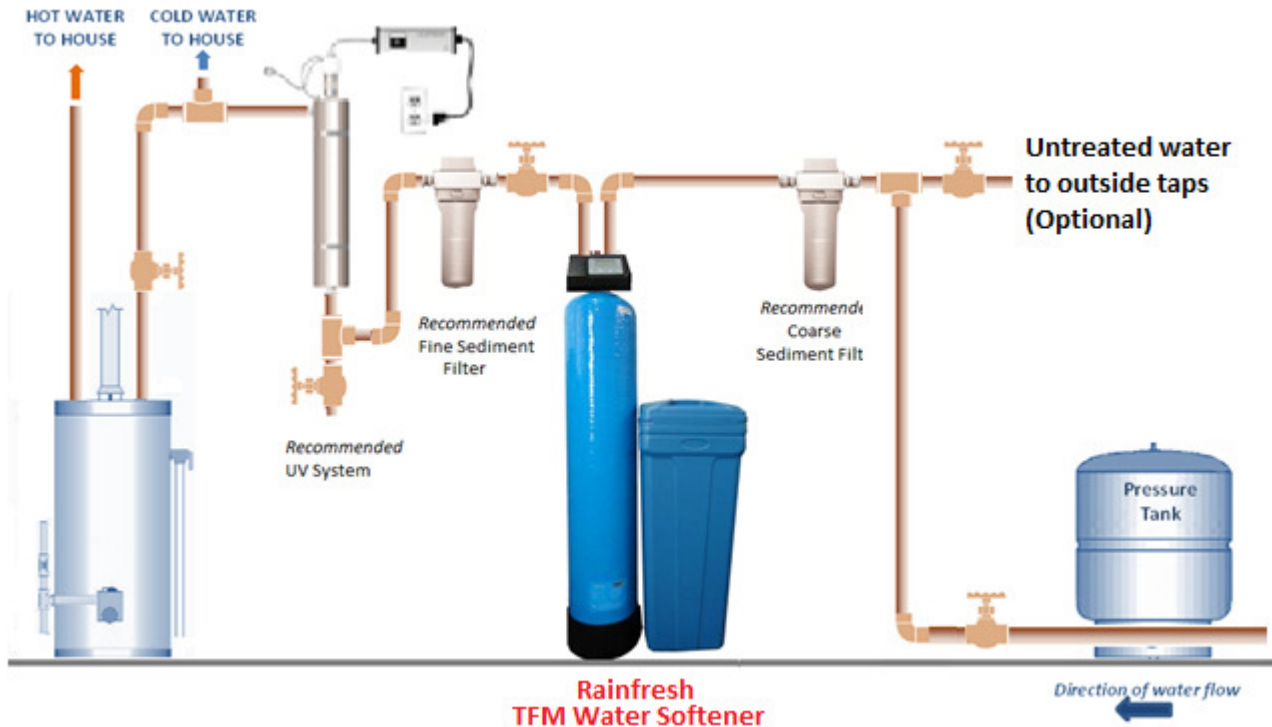

Fig 1
- The system has 3 connections - an inlet, an outlet, and a drain line connection. If you are looking at the back of the unit (**fig 1**), the inlet is on the left side. **Warning:** Make sure that you have correctly identified the inlet of the system. **REVERSING THE**